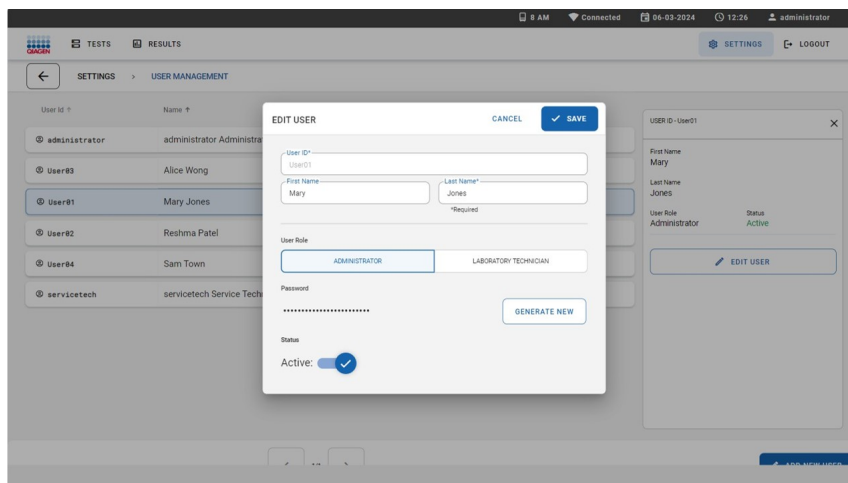

Figure 71. Edit user dialog box.
1. Select the user to manage from the list of users (Figure 71).